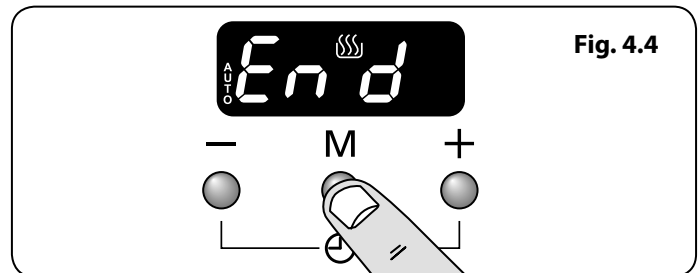

Fig. 4.4
1. Press the mode [M] button 3 times, until the display flashes 'End' **(Fig. 4.4)**.